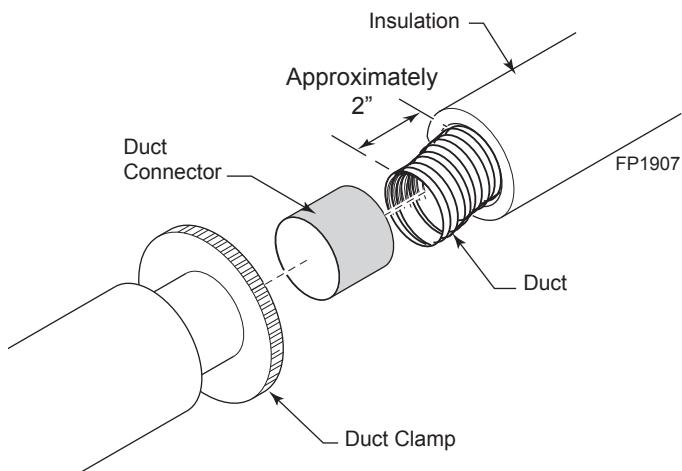

Figure 19 -
7. If the duct is the insulated type, push the insulation back from one end of the duct approximately 2". *Figure 19*